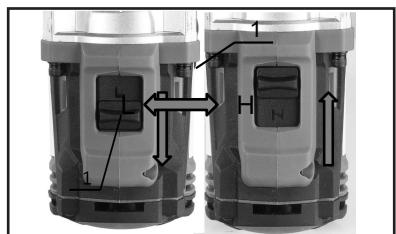

Fig. 3
- If the tool speed is drastically reduced during operation with the speed selector in the "H" position, push the speed selector to the "L" position and restart operation. (Fig. 3)